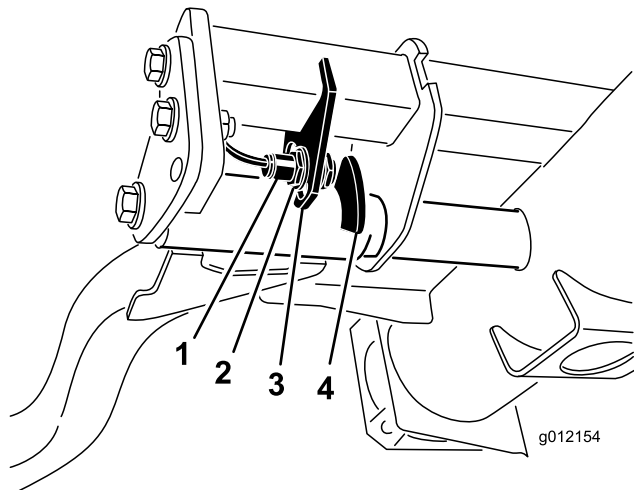

Figure 43
- The lift arm switch is located underneath the hydraulic tank behind the front right lift arm (Figure 43).
- Loosen the switch mounting screws (Figure 43) and move the switch down to increase the lift arm turn around height or move the switch up to decrease the lift arm turn around height. Tighten the mounting screws.